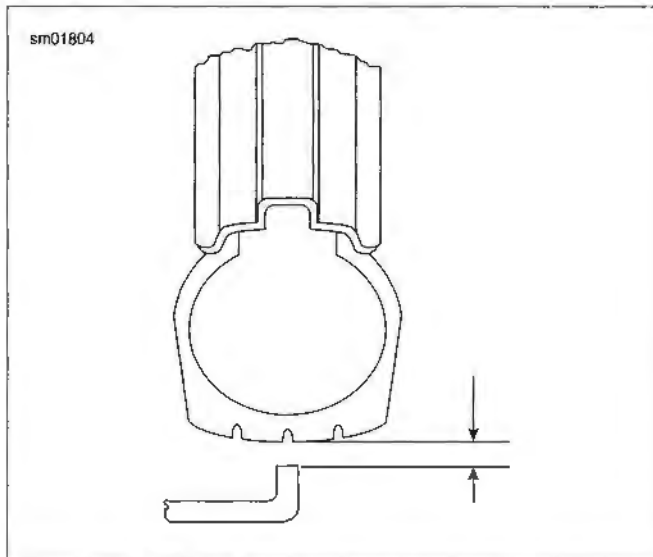

Figure 2-60. Checking Tire Radial Runout
2. See Figure 2-60. Turn the wheel on the axle and measure tire radial runout at the tread centerline.